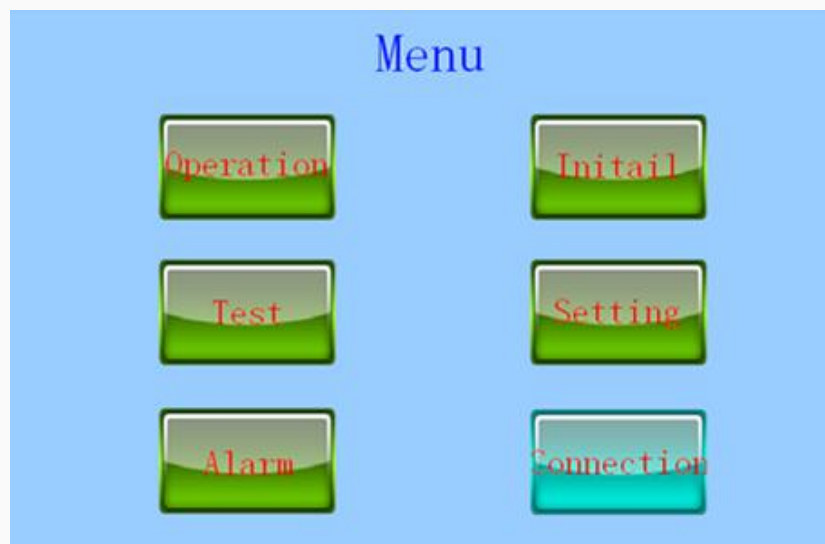
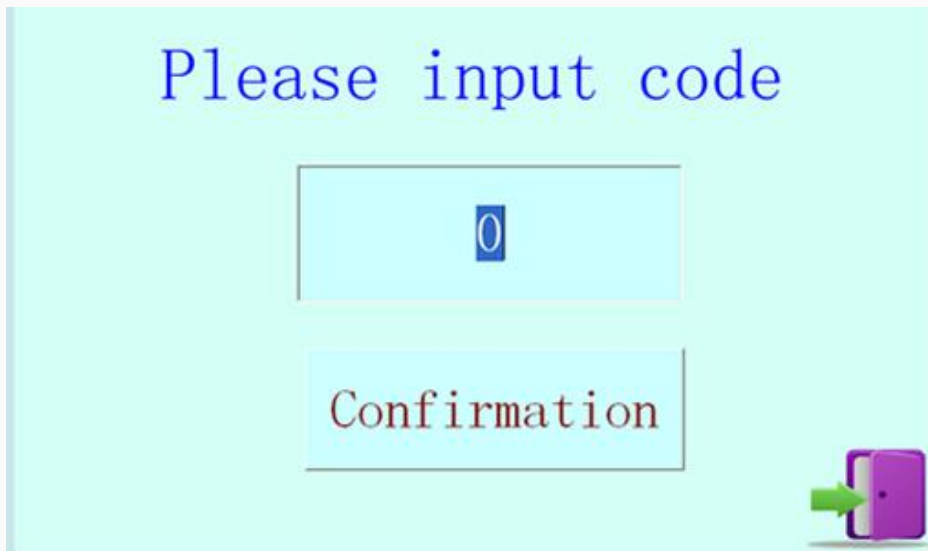
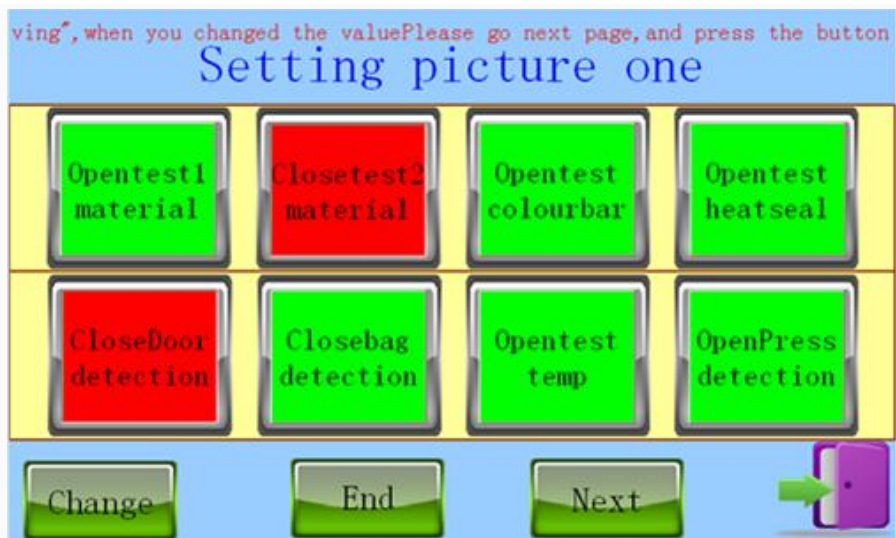

Figure 12
Figure 13
Figure 15
6.2.1 on the power supply of main, close the "power switch", open the "control switch, touch screen display the language selection interface (see figure 11), choose the corresponding Chinese language into the" menu "interface (see figure 12). Click"  "the return to" menu "interface (the interface click"  "are to return to" menu "interface).
6.2.2 the first choose "menu" interface (see figure 12) dialog "Settings screen", it will pop up an requirements input password dialog box (see figure 13).
6.2.3 click scintillation box will appear digital keyboard (see figure 14), enter the required password password. Enter the password after password "Enter" to click on the lower right corner, returns to the figure 13, press "verify password" will Enter "Settings screen a" interface (see figure 15). (digital keyboard input method of use, please refer to 8.5 digital keyboard use method).